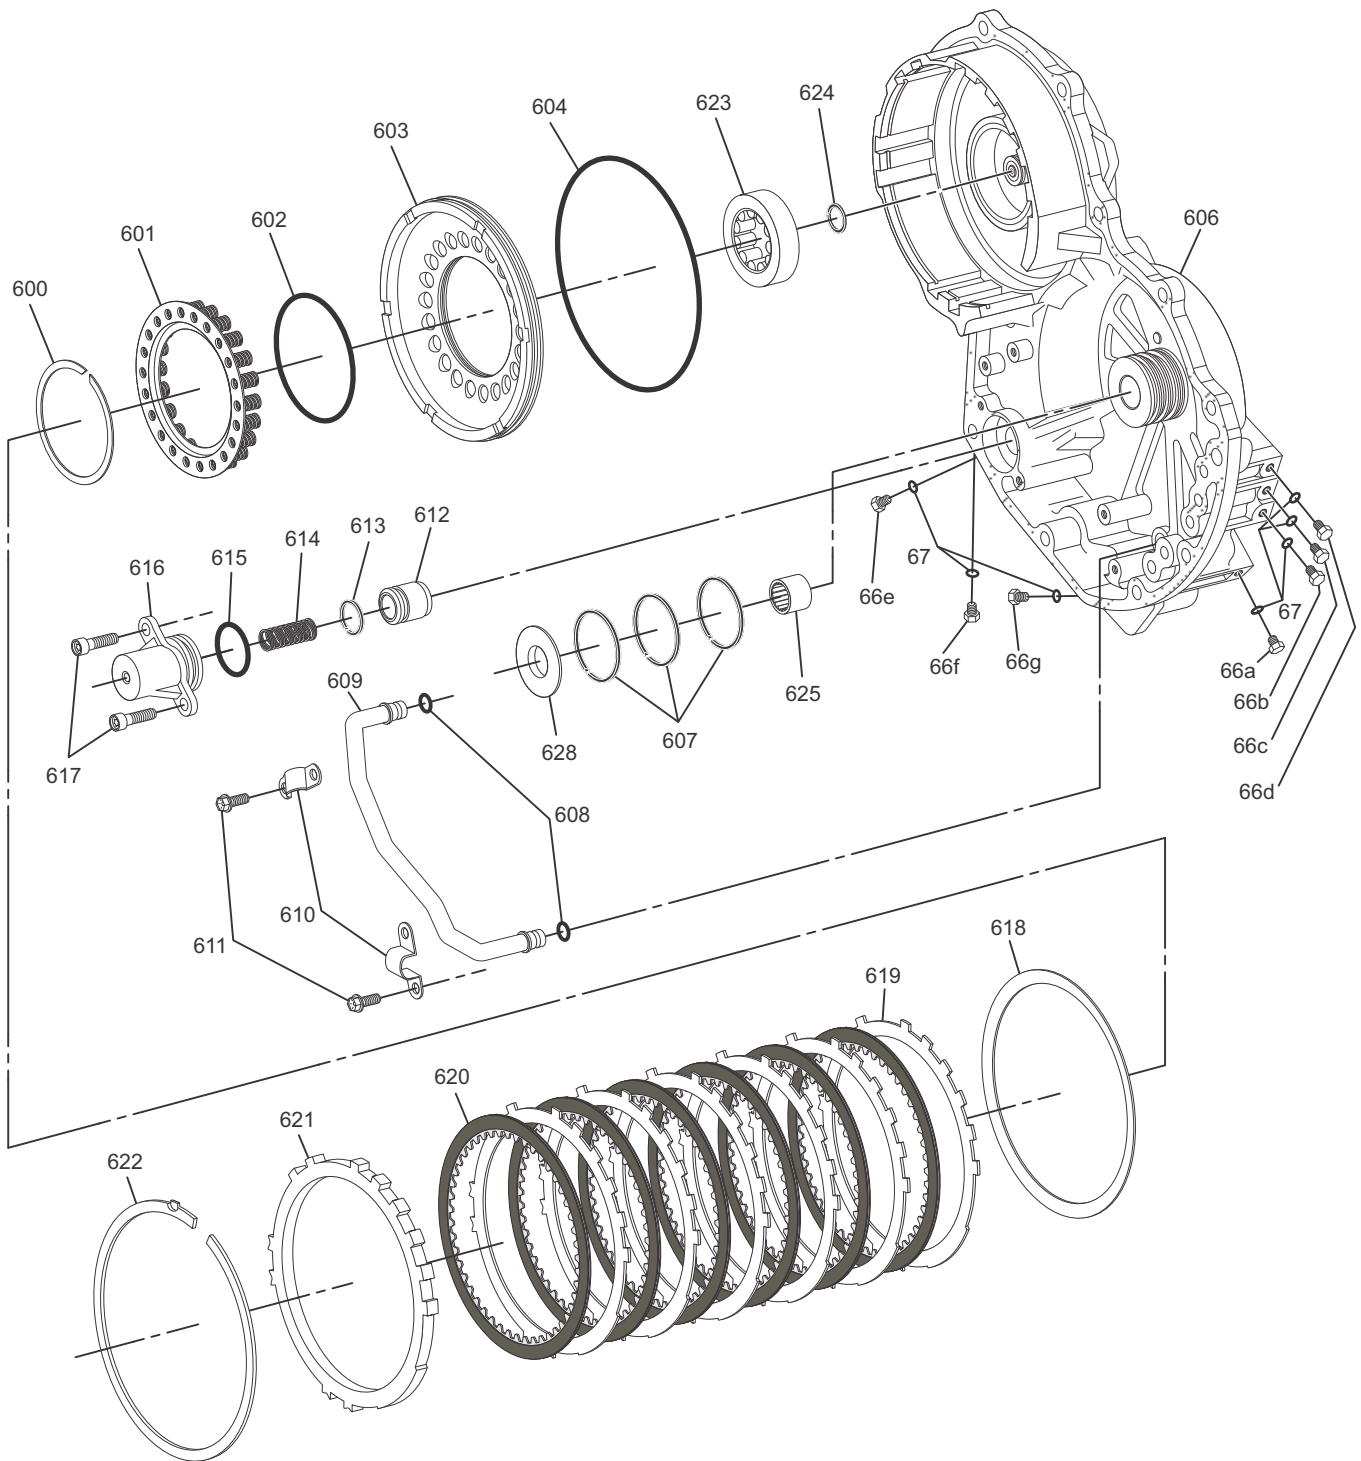

Figure 127
1. Disassemble the Automatic Transmission Rear Cover 1-2/Reverse Brake (B5) Housing Assembly using the diagram in Figure 127 as a guide.